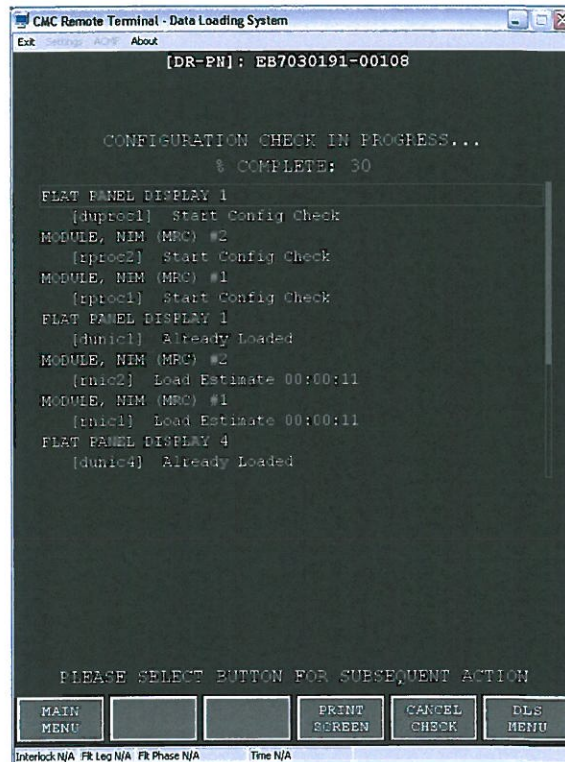

Figure 7: Configuration check
- Verify that the configuration check procedure starts and the "Configuration Check" window (see Figure 7) appears on the screen. During the configuration check, the "% COMPLETE" of the process will be shown and a report will be listed in the page.